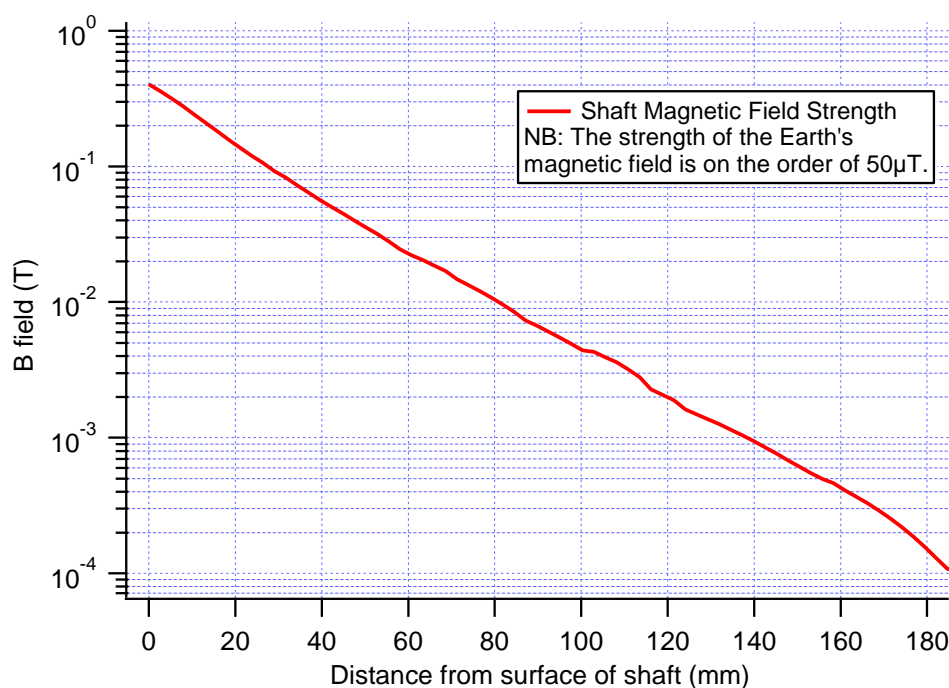

Figure 4-1 – Shaft magnetic field strength with distance
4. When using a magnetic position sensor ensure that it is located far enough from the shaft that the magnetic field is within the working limits of the sensor. The shaft field strength as a function of distance from the shaft in isolation is shown in *Figure 4-1*.
Note that Figure 4-1 shows field strength from the shaft in isolation, however when integrating into machinery the presence of ferrous materials can affect the distribution of magnetic fields. It is the responsibility of the equipment/machinery builder to undertake any required risk assessments relating to the presence of strong magnetic field around their machine. After installation of the LinX motor into a machine the local magnetic field strength can be easily checked using a hand held gauss meter to ensure it is within an acceptable level.